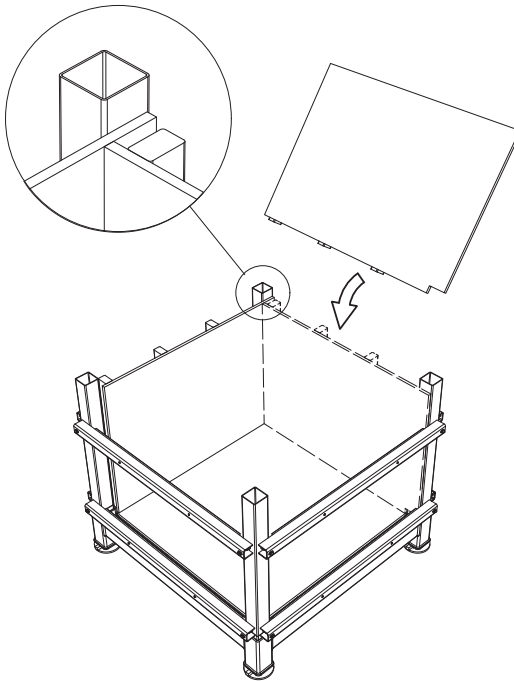

Figure 20. *Placement of the side board units.*
- 4.3 Place the four Concrete Side Board assembly units equally one after another onto the Bottom Board located in the Base, with the notch facing down and the Wooden Ribs leaning towards the Formwork Supports, see Figure 20. Make sure to place all the units overlapping so that all the sideboard units get the same support when leaning against the Formwork Supports.